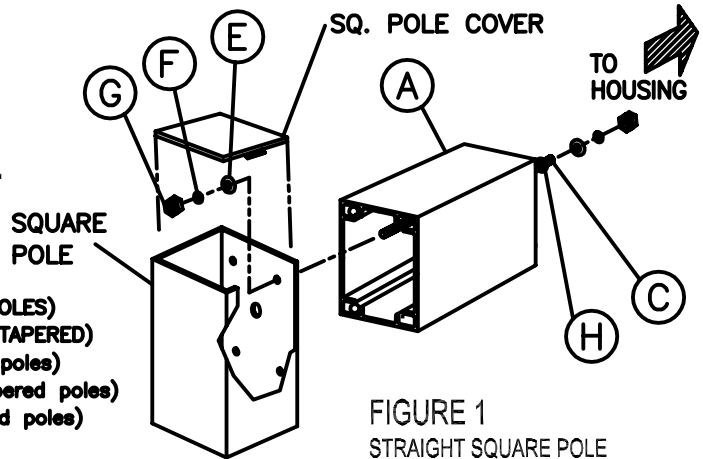
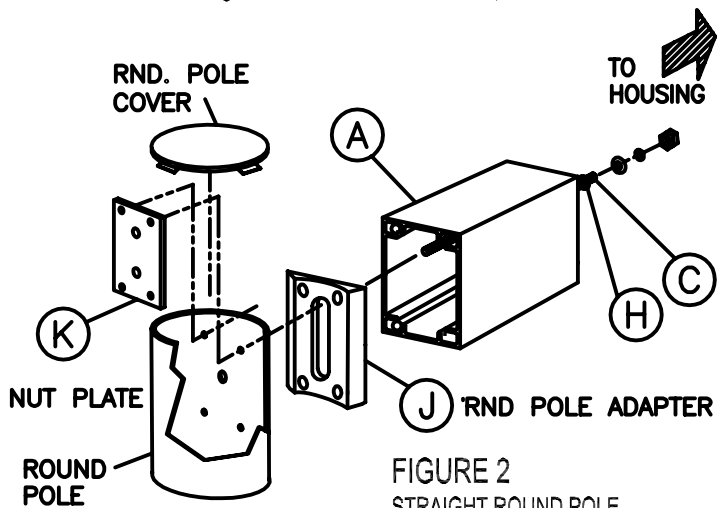
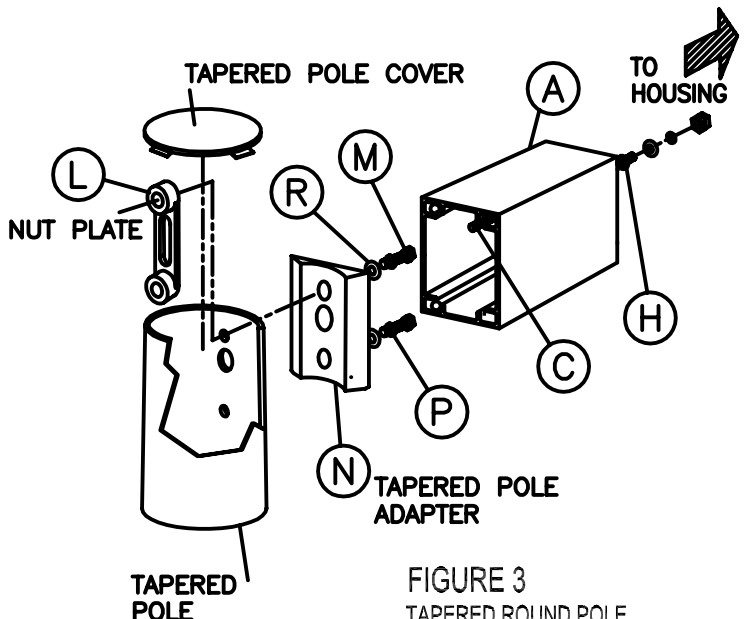

FIGURE 1
FIGURE 2
FIGURE 3
MOUNTING INSTALLATION (FIGURES 1, 2 & 3)
A. FIGURE 1 : STRAIGHT SQUARE POLE INSTALLATION
1. Insert (4) threaded rods (C) into pole. Attach (4) flat washers (E), (4) lockwashers (F) and (4) nuts (G) to the ends of the rods inside the pole.
2. Slide extruded arm (A) over threaded rods (C). Some arms will have a label on top, if so, follow the instructions on the label. To hold the arm in place, slide (4) pushnuts (H) onto each threaded rod and secure them against the arm.
B. FIGURE 2 : STRAIGHT ROUND POLE
1. Using the proper round pole adapter (J), place flat side against the arm (A). Attach rods (C) into nut-plate (K) placed inside pole.
2. Slide extruded arm (A) with adapter (J) over threaded rods (C). To hold the arm in place, slide (4) pushnuts (H) onto each threaded rod and secure them against the arm.
C. FIGURE 3 : TAPERED ROUND POLE
1. Insert (2) 1/2-13 bolts (M) with lockwasher (P) and flatwasher (R) through pole adapter (N).
2. Mount adapter (N) to the pole using the cast nut-plate (L) placed inside the pole.
3. Attach rods (C) into adapter (N).
4. Slide extruded arm (A) over threaded rods (C). To hold the arm in place slide (4) pushnuts (H) onto each threaded rod and secure them against the arm.